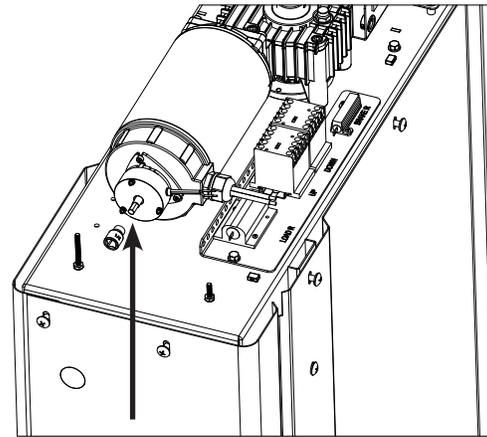

Figure 6-11
5. If you have a $\frac{3}{8}$ " drive ratchet or a cordless drill with a $\frac{3}{8}$ " socket adapter bit you can use the $\frac{1}{4}$ " socket for lowering. Power the drill in the forward direction - rotating clockwise to lower the platform. **See Figure 6-11.**